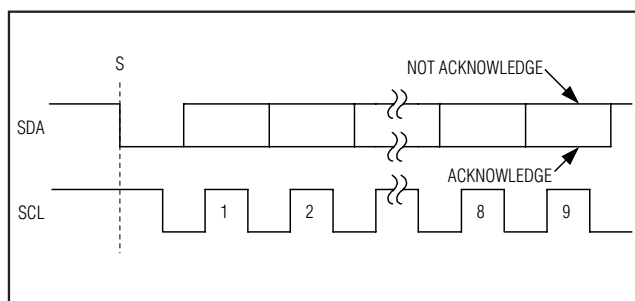

Figure 6. Acknowledge Bits
Data transfers are acknowledged with an acknowledge bit (A) or a not-acknowledge bit ( $\bar{A}$ ). Both the master and the MAX11646/MAX11647 (slave) generate acknowledge bits. To generate an acknowledge, the receiving device must pull SDA low before the rising edge of the acknowledge-related clock pulse (ninth pulse) and keep it low during the high period of the clock pulse (Figure 6). To generate a not-acknowledge, the receiver allows SDA to be pulled high before the rising edge of the acknowledge-related clock pulse and leaves SDA high during the high period of the clock pulse. Monitoring the acknowledge bits allows for detection of unsuccessful data transfers. An unsuccessful data transfer happens if a receiving device is busy or if a system fault has occurred. In the event of an unsuccessful data transfer, the bus master should reattempt communication at a later time.